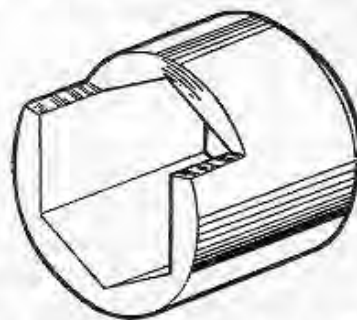

Fig. 2. Socket spanner modified to clear locking tabs
26. At the periods specified for checking the tappet adjustment, a check to ensure that none of the rocker bracket bolts has slackened off should be made before the adjustment is carried out. To do this without disturbing the locking of the bolts, a $\frac{1}{2}$ in. Whitworth socket should be modified by grinding away two of the flats, as indicated in fig. 2, to clear the locking tabs; the valve rocker can be displaced outwards, against the spring, sufficiently to permit the